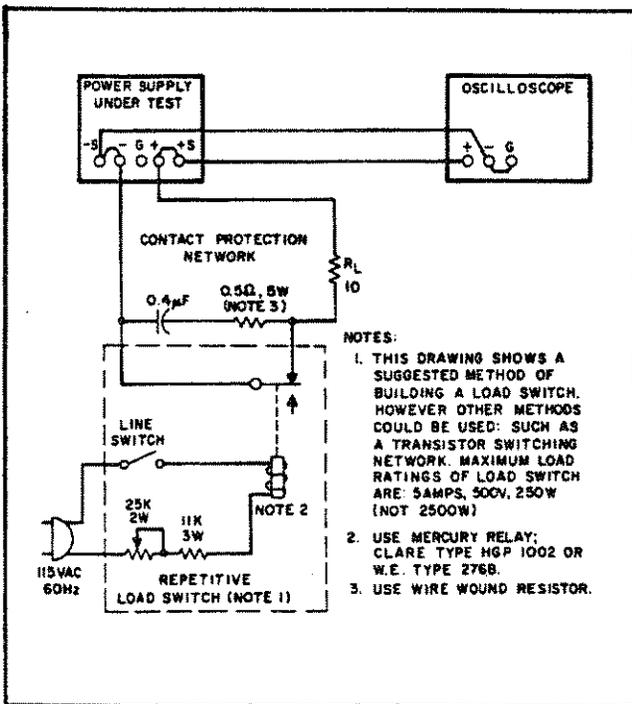

Figure 5-4. Transient Recovery Time Test Setup
5-31 A mercury-wetted relay, as connected in the load switching circuit of Figure 5-4 should be used for loading and unloading the supply. When this load switch is connected to a 60Hz ac input, the mercury-wetted relay will open and close 60 times per second. Adjustment of the 25K control permits adjustment of the duty cycle of the load current switching and reduction in jitter of the oscilloscope display.
- a. Connect test setup shown in Figure 5-4. Set MODE switch to POWER SUPPLY and RANGE switch to X4.